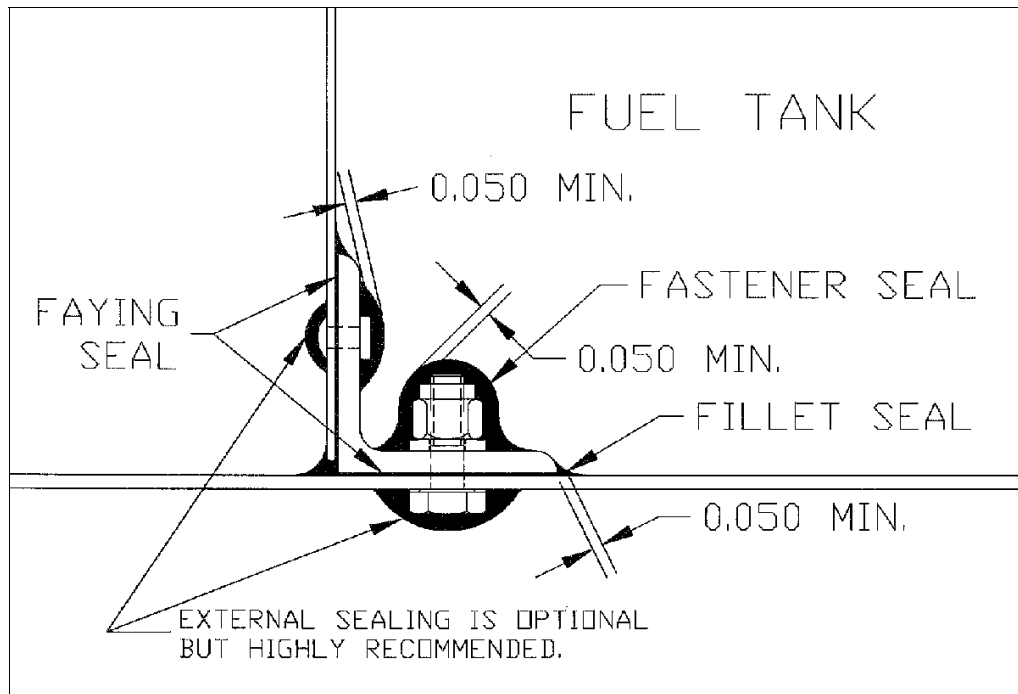

Figure 5.4): Fuel Tank Sealing Illustration
- 5.4.3) With the work area immaculately clean, assembly work can begin. Refer to Figure 5.4) for sealing illustration and terminology.
- 5.4.3.2) Fasteners are always installed wet. That is, their shanks and under the head is coated with "B" sealant prior to installation. After installation, some sealant will have squeezed out around the ends. Smooth this out and add more to completely seal the fastener ends as shown in Figure 5.4). Use a tool or a latex gloved finger for smoothing, not a bare finger. Do not try to clean up excess sealant with solvent.
- 5.4.3.3) Fillet seals are continuous lines of sealant along the joints between two parts. The bead squeezed out from the faying seal is a good start, and may be sufficient when formed into a fillet. If the bead material is not enough to get the coverage thickness specified in Figure 5.4), add more “B” sealant. Use a tool or a latex gloved finger for smoothing, not a bare finger. Do not try to clean up excess sealant with solvent.